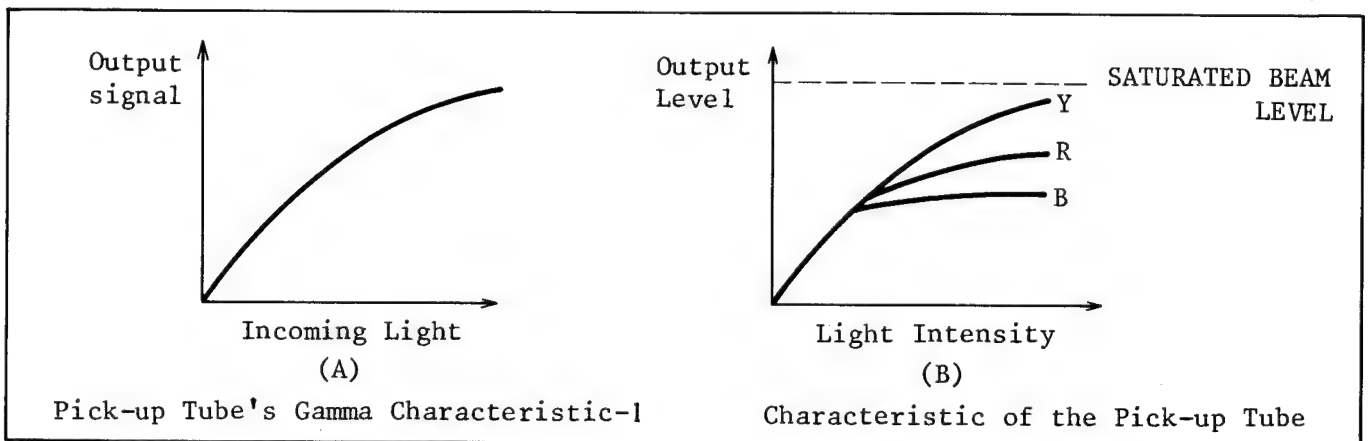

Fig. 21.
As described earlier, the pick-up tube does not have linear photo-electric conversion characteristics. A typical pick-up tube gamma characteristic is shown in Fig. 21 (A). Because of this inherent characteristic, the higher levels of the video signal will be compressed, see Fig. 21 (B).